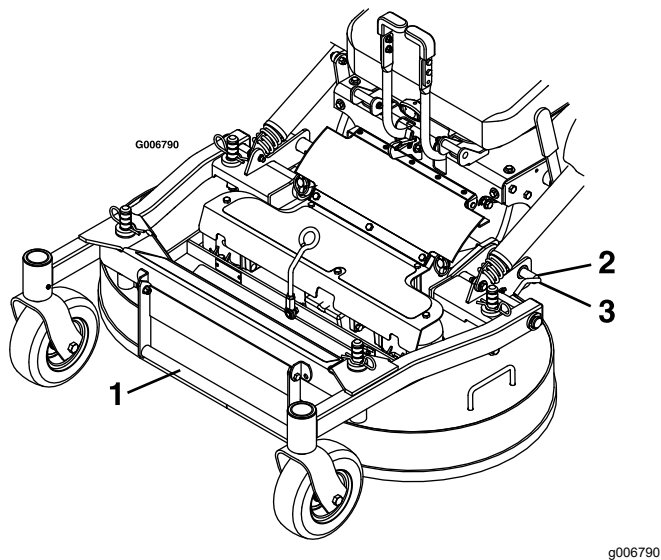

Figure 6
- With the deck-locking pins pulled out in the unlock position, carefully lower the deck (Figure 6).